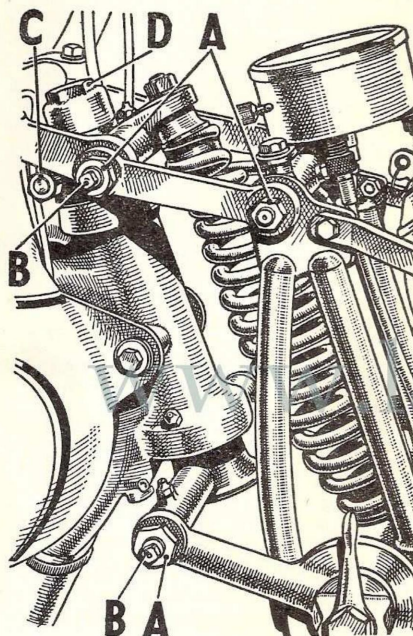

Fig. 21.
If adjustment is necessary release the locknuts at both ends of the fork links (A, Fig. 21). Now with a spanner engaging the flats at the end of the spindle (B), screw in to take up end play or loosen to give more play. As the spindles engage in tapers only a slight adjustment may be necessary, and it is advisable to adjust one spindle at a time and check fork movement before proceeding to the next.
Loosen the clip bolt (C, Fig. 21), then gently tighten the adjusting nut (D, Fig. 21) until there is no perceptible shake in the head. Do not over-tighten or steering will be stiff and the ball races will be damaged. Remember to tighten the clip bolt after adjustment is complete.